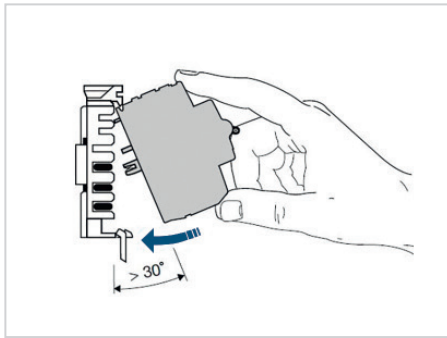

Fig.18: Assembly of an SMISSLINE TP device
- Load connection of SMISSLINE TP devices according to Fig.18